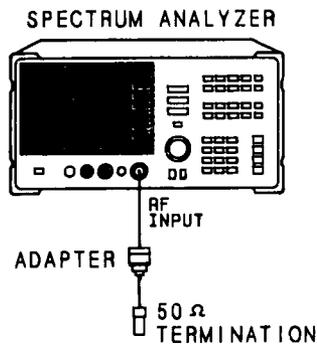

Figure 3-3. Displayed Average Noise Test Setup
- 4 Connect the HP 909D 50 Ω termination to the HP 8562A/B RF INPUT 50 Ω as shown in Figure 3-3.